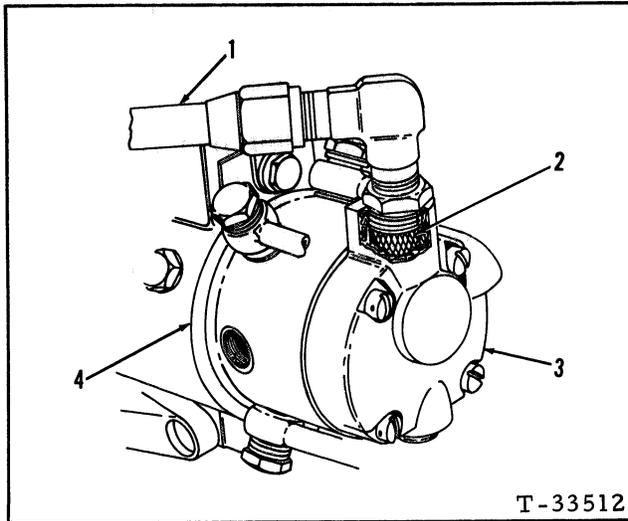

FIG. 2 FUEL STRAINER LOCATION
Check the strainer, Fig. 2 (2), in the end-plate of the injection pump. Remove any foreign matter if the screen is clogged.